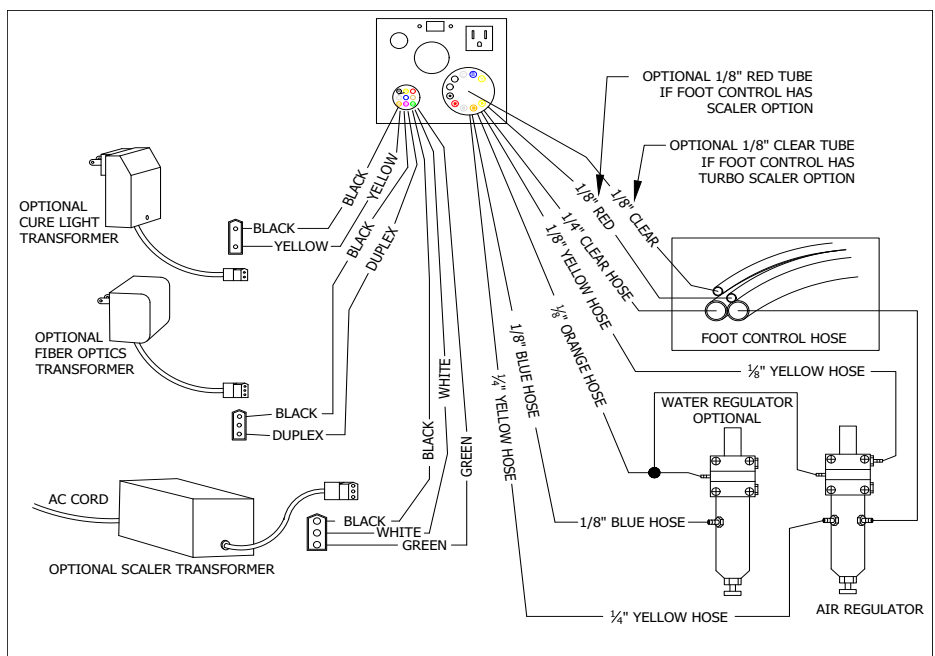

Fig 10.7
2. Please be sure to have your licensed contractor or installer follow Fig 10.7 for proper tubing and wiring connections. Wiring and tubing may differ depending on options purchased. Configuration shown is with standard options.